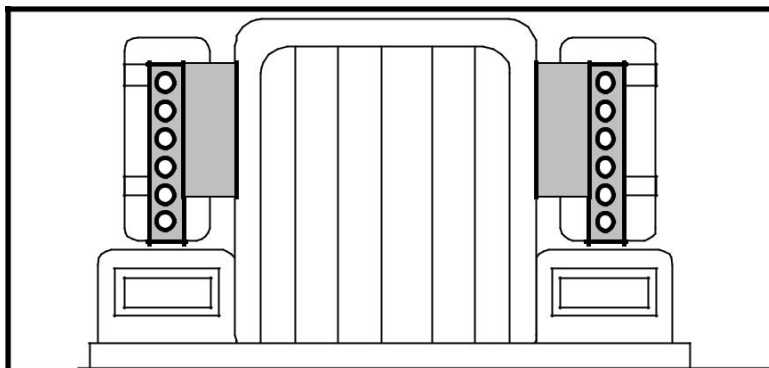

Fig. 1
4. Position lite box against front of air cleaner, aligning 4 holes in lite box mounting flange with 4 holes in air cleaner brackets. (Note: Flange should be positioned upward, with lite box extending downward - see Fig. 1.)
5. Insert four (4) truss head bolts (supplied) through lite box and air cleaner bracket holes. Fasten with flat washers and nylon lock nuts. Secure with a phillips head screwdriver and 7/16" wrench.